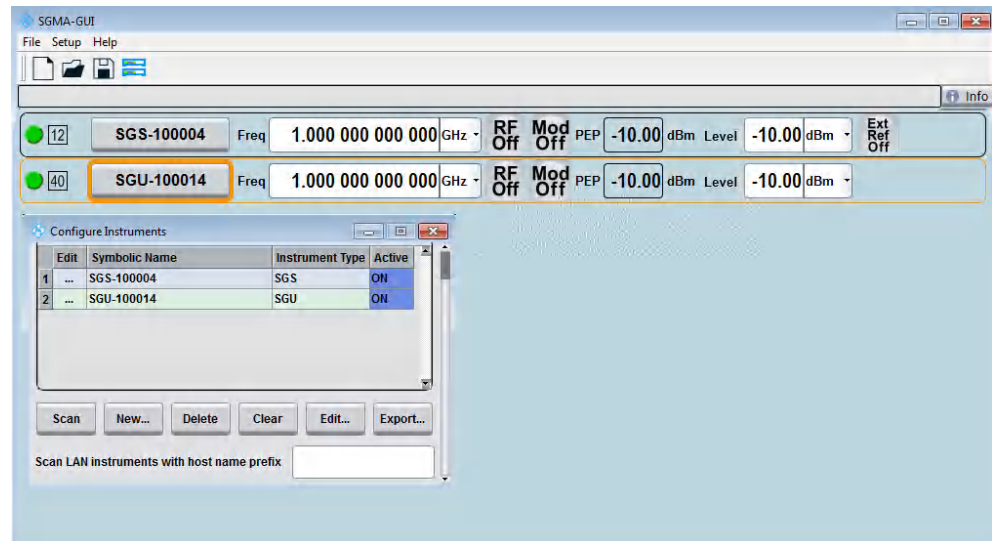

Figure 7-5: Connection of an R&S SGS and an R&S SGU in a company network
1. Connect the test equipment as shown in Figure 7-5: